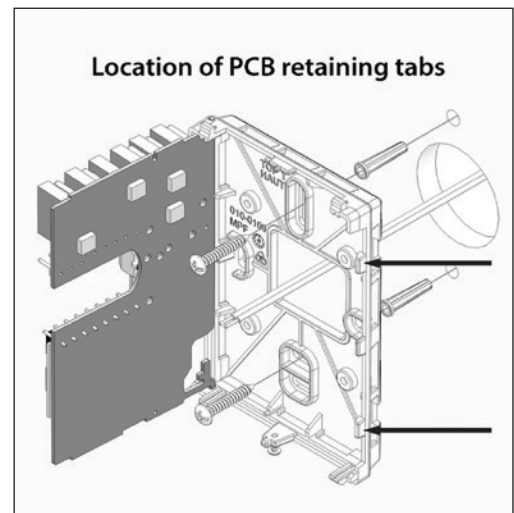

Figure-2 Opening the PCB
1. Swing open the Terminal Equipment Controller PCB to the left by pressing the two PCB retaining tabs (Figure-2).
7. Insert screws in the mounting holes on each side of the base (Figure-2).